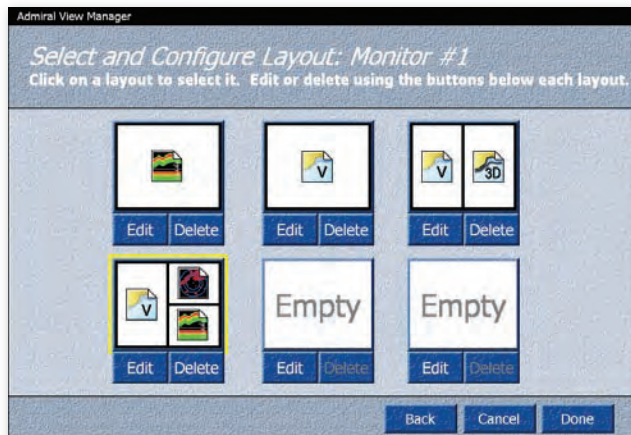

Figure 18.8 - View Manager - Select and Configure Layout
4. If you have one monitor, the first screen you will see is **Figure 18.8**.
3. The Select and Configure Layout screen (Figure 18.8) allows you to configure each window pane layout for content type. To select a pre-existing layout, click on the large white box containing a graphic. To edit or create a new layout, click the **Edit** button.